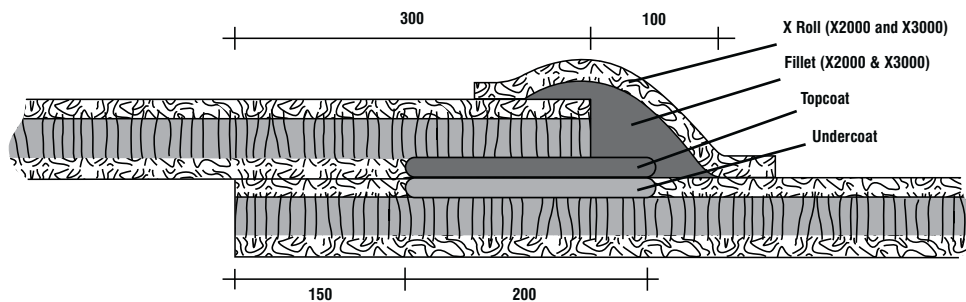

Figure 13 - End (or Transverse) overlap treatment for X2000 and X3000
3. See Figure 13 for a cross section of treated End (or transverse) overlaps.
The completed end (transverse) overlap for X2000 and X3000 is shown in Figure 13.